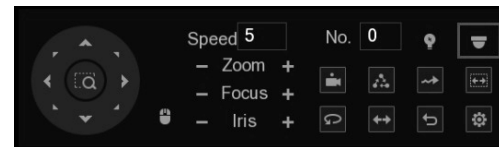

Figure 5-7
Step 3 Click **+** to see more options. See Figure 5-7.